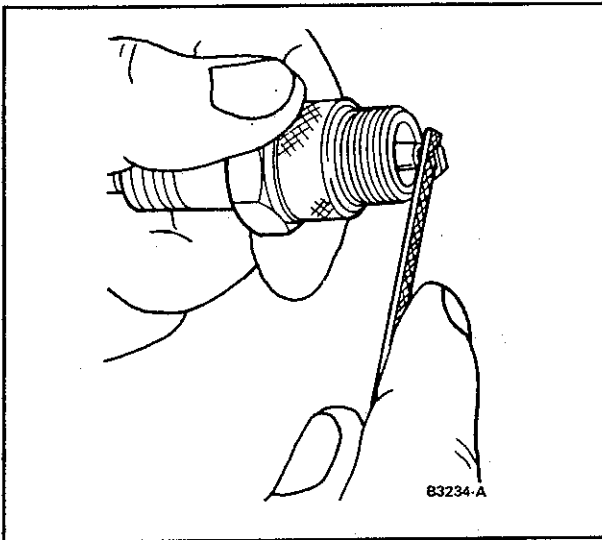
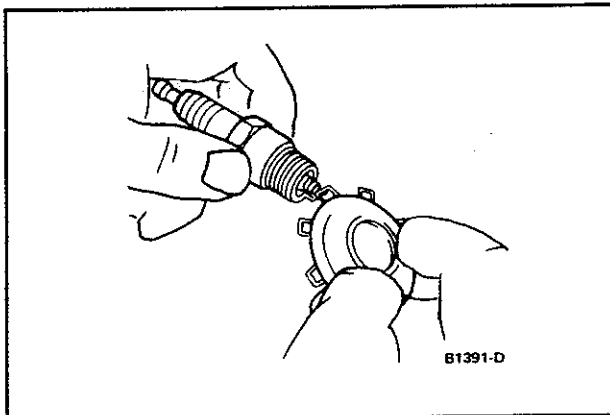

Figure 14 Filing Spark Plug Electrode
Figure 15 Checking and Setting Spark Plug Gap
**After cleaning, the electrodes must be dressed with a small file to obtain flat parallel surfaces on both the center and side electrodes (Figure 14). Set the spark plug gap to specifications by bending the ground electrode (Figure 15); all spark plugs, new or used, should have the gap checked and reset as required.**